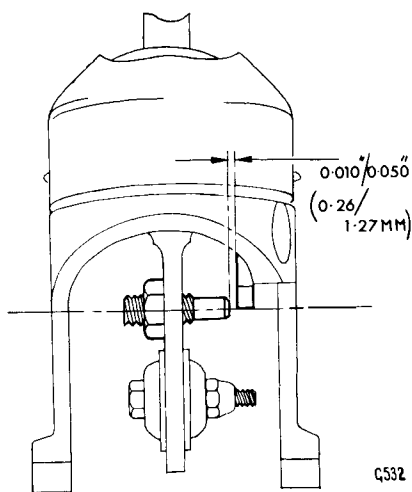

Fig. 16. Adjustment of reverse stop plate and bolt
Adjust the reverse stop plate (61) and bolt (73) in the neutral position of the first/second gate as shown in Fig. 16.